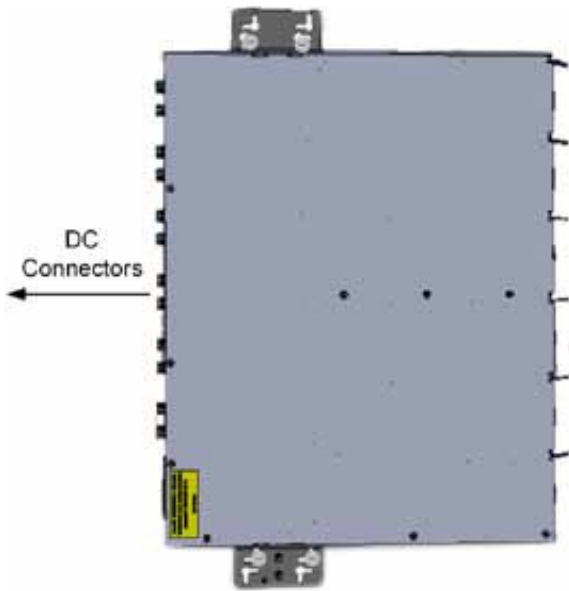

Figure 5-5. Mounting Direction on Wall
- The unit should be mounted on the wall with the DC connectors facing sideways. See Figure 5-5.